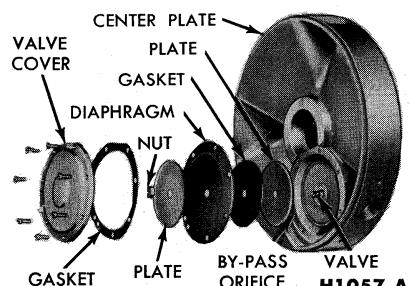

FIG. 43—Fast Application Valve and Diaphragm Removal
18. Position the plate on a flat surface. Remove the fast application valve cover (Fig. 43).
a screwdriver, and remove the nut. Lift the 2 plates, diaphragm, and gasket off the valve shaft (Fig. 43).
10. Turn the center plate over. Place the lower diaphragm plate, with the rounded edge up, on the valve shaft, then place the diaphragm gasket on top of the plate (Fig. 43). Position the diaphragm on top of the gasket so the screw holes and the by-pass hole index with the identical holes in the center plate. Install the other diaphragm plate with the rounded edge facing the diaphragm.